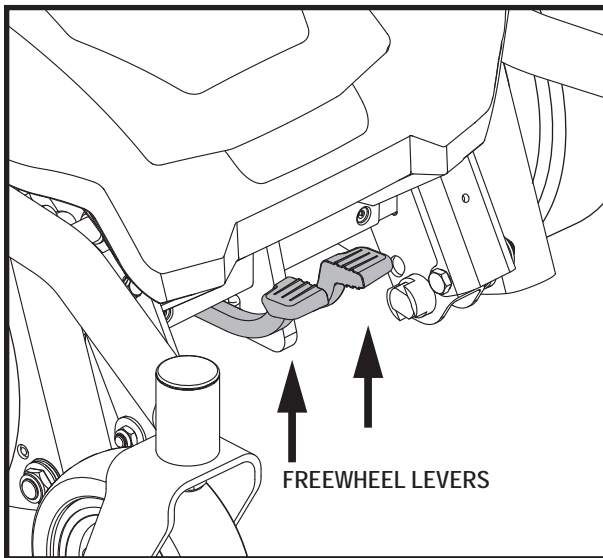

Figure 4. Drive Mode (Drive Engaged)
2. Pull both levers upward to engage the drive motors (drive mode). **See figure 4.**